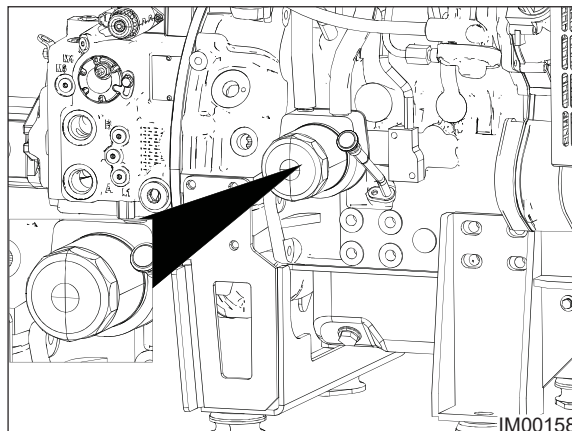

Fig: 11.14 - Oil Filter
3. Remove the Oil Filter (Fig: 11.14) with a 1U-8760 chain wrench.